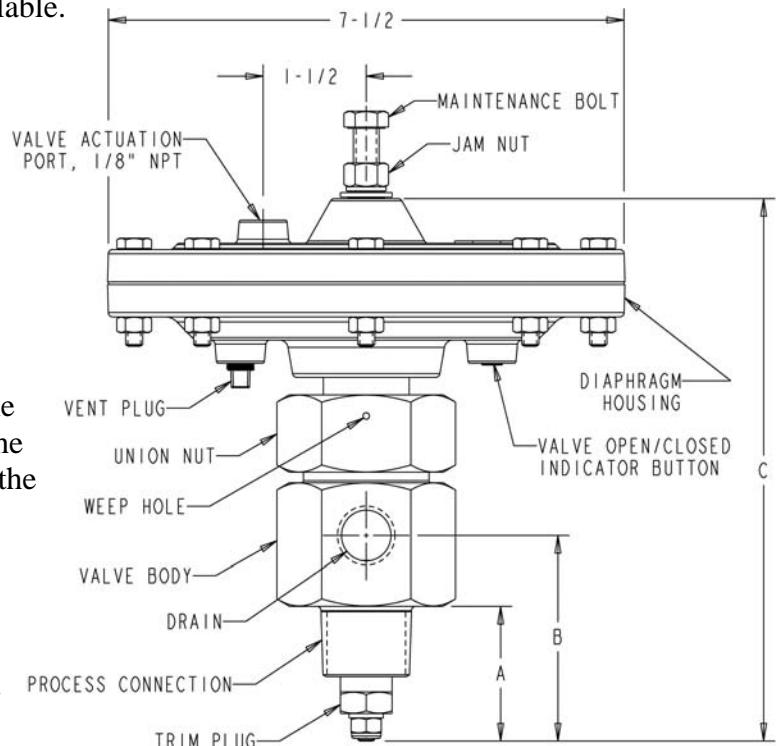

FIGURE 1: DIMENSIONS AND SPECIFICATIONS
**Operating Process Pressure:** Up to 2000 psi, depending on model (See figure 1)